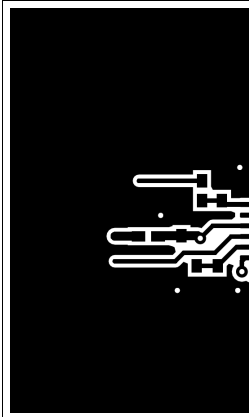
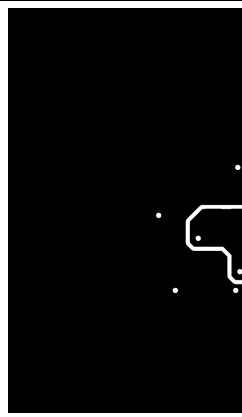

図 44. Top Layer Traces and Copper
図 45. Bottom Layer Traces and Copper
- Increasing the PCB copper connecting to VDDA, VDDB, VSSA and VSSB pins is recommended, with priority on maximizing the connection to VSSA and VSSB (see Figure 44 and Figure 45). However, high voltage PCB considerations mentioned above must be maintained.
Figure 44 and Figure 45 shows top and bottom layer traces and copper.